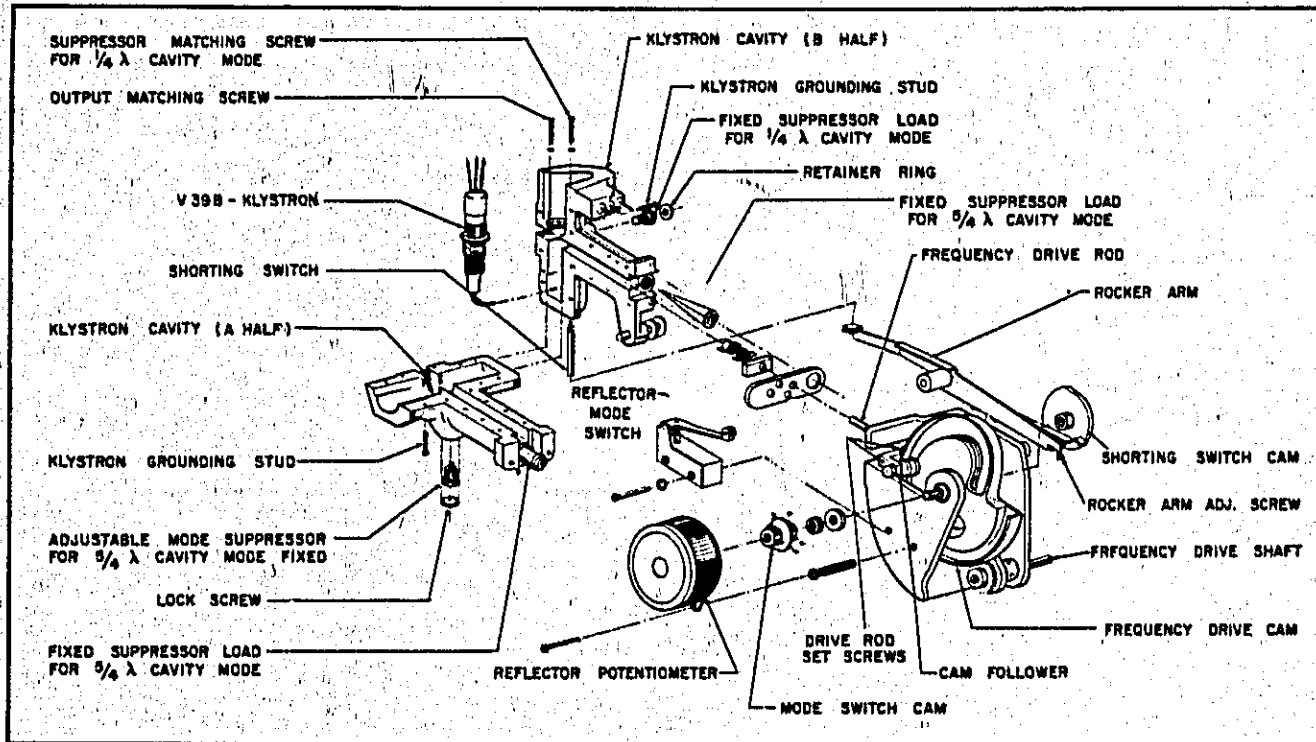

Figure 5-5. Exploded View of Klystron Cavity and Plunger Drive Mechanism
f. Set frequency dial near high frequency end. Where plunger rod is accessible, loosen setscrews holding plunger rod to cam follower (refer to Figure 5-5).